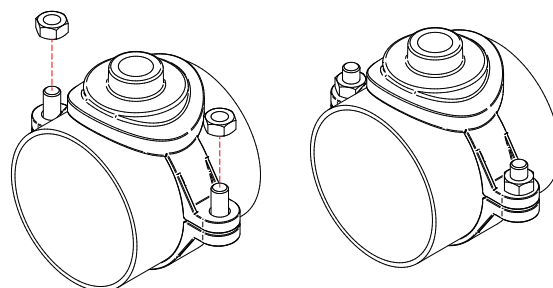

FIG. 2
4. Equalise body gaps - Finger-tighten the nuts so the upper and lower body halves sit evenly around the pipe. Maintain approximately equal gaps at both sides. (See Figure 2)
5. Progressively tighten - Alternately tighten each nut in small increments. Do not fully tighten one side while the opposite side remains loose. Tighten evenly to no more than 20 Nm using a calibrated torque wrench. Do not use an impact wrench for final torque verification. (See Figure 2)